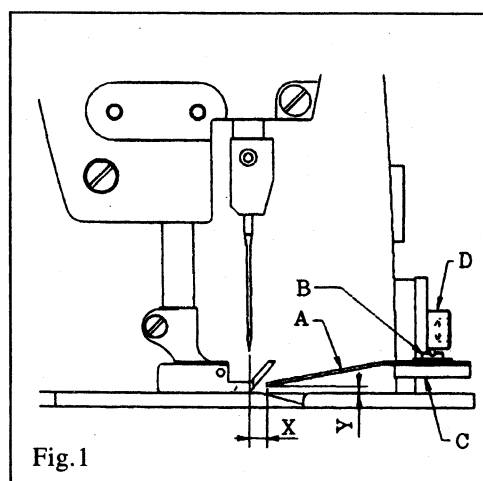

Fig.1
The height (Y) of low stripper blade A should be about 1-3mm from the surface of needle plate and then the fabric can be through the clearance (Y) by loosening screw D and move the bracket C to up or down. See the Fig 1. The clearance (X) between the needle and the tip of low stripper blade A should be about 4-5mm by loosening screw B and move A to front or back. See Fig 1.